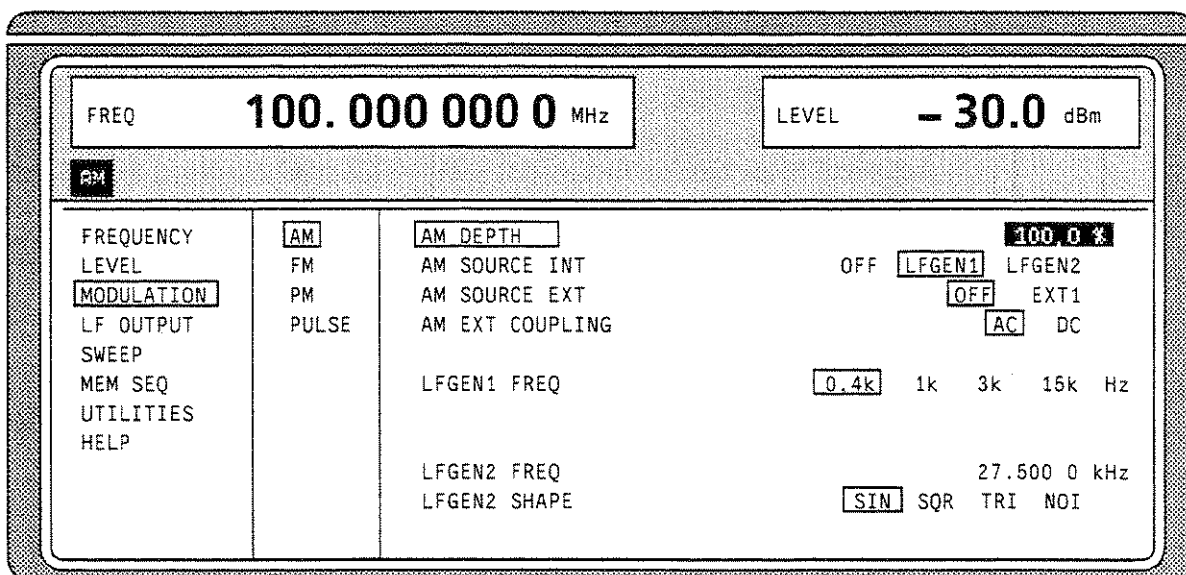

Fig. 2-4 MODULATION-AM menu
- ▶ Set the menu cursor to the name of the parameter desired using the rotary knob, e.g. to AM DEPTH in the AM menu, Fig. 2.4.
The menu cursor changes from the parameter selected in the left-hand column of the setting menu to the setting value on the right, e.g. from AM DEPTH to 100%, Fig. 2-4.
The menu cursor changes from the parameter selected in the left-hand column of the setting menu to the current selection on the right, e.g. from LFGEN1 FREQ to 0.4 kHz, Fig. 2-4.